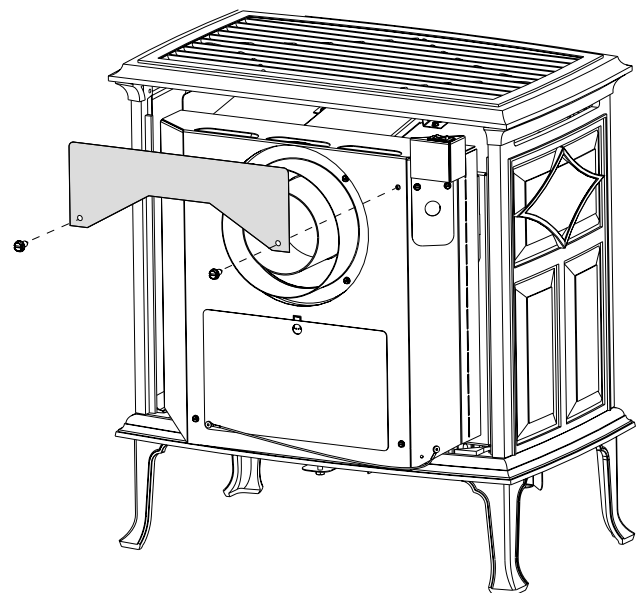

Figure 15.
3. Secure the wall shield to the stove with the two 1/4" hex head screws. See fig. 15 .